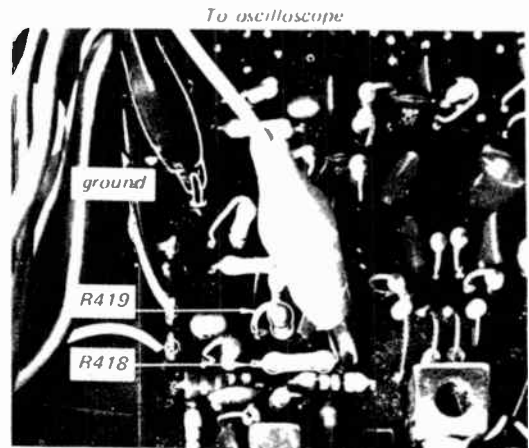

Fig. 3-12. A m detector output connection
2. Connect the input cable of the oscilloscope with alligator clips to the connection point of R418 and R419 and ground on the tuner and MPX circuit board as shown in Fig. 3-12.